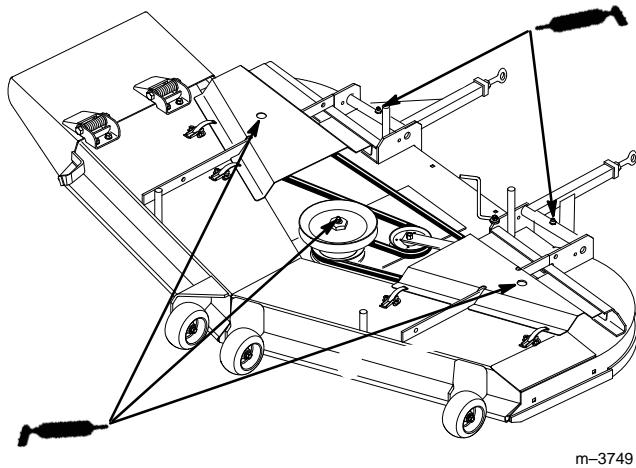

Figure 14
2. Grease the fittings on the three spindle bearings (Fig. 14).
3. Grease the fittings on the push arms (Fig. 14).